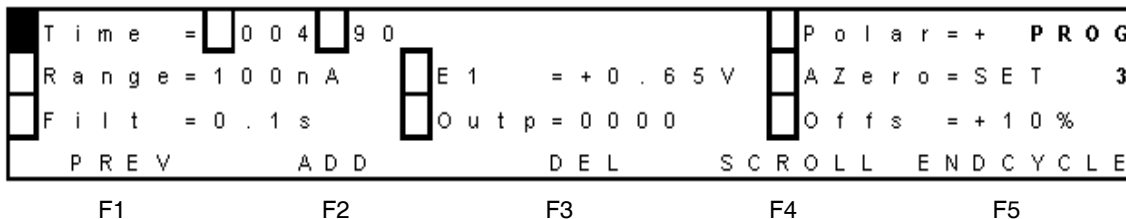

Figure 3-33 Prog Screen After Adding Line 3
- d. Select **F2 ADD**. The Prog screen appears (Figure 3-33). The number under **PROG**, 3, shows that this time file currently has a total of three lines. The time that this file will execute is 4.90 minutes after the start.